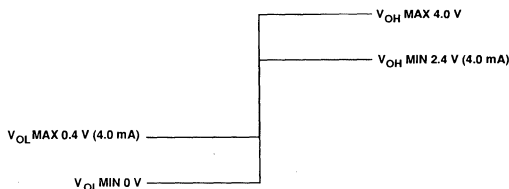

Figure 12. Receive Clock, Data and Byte Sync Driver Levels.
6. The drive levels given are appropriate for Receive Data, Receiver Clock, and Byte Sync signals. The Receive Data, Receive Clock, and Byte Sync TTL drivers are push-pull totem pole drivers with a 25 Ω series resistor to dampen transmission line reflections (see Figure 12).